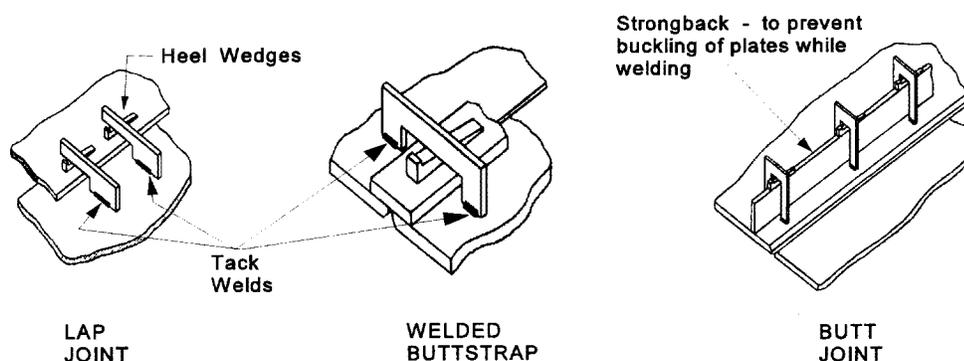

Figure 3-11. Methods of Securing Welded Structure
- a. Inspect the bulkhead for straightness. If the bulkhead is warped or twisted, straighten with a strongback. Use an angle or flat bar. If the bulkhead is bowed, make a cut in the plate. Use a strongback to flatten the bowed area, and reweld the cut. See figure 3-11.